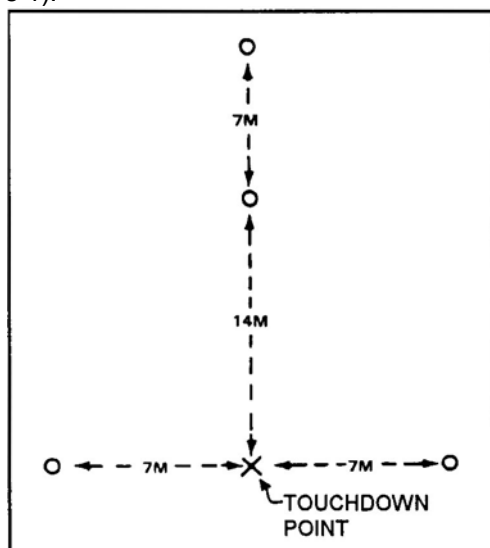

Figure 1. Night Marking.
- (1) Day--The only signals required are colored smoke and a signalman. VS-17 marker panels may be used to mark the landing site, but are NOT used any closer than 50 feet to the touchdown point. In addition to identifying the landing site, the smoke will give the pilot the wind direction and speed.
- (2) Night--The landing site and touchdown point are marked by an inverted "Y" composed of four lights (Figure 1).